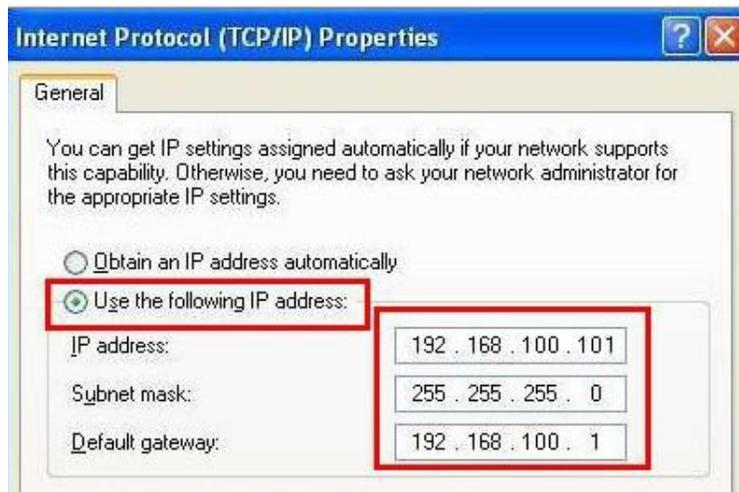

Figure 22 - Configuring the IP Address, Subnet mask, and Default gateway
2. Configure the **IP address**, **Subnet mask**, and **Default gateway** on your computer so it is on the same network segment as the camera (Figure 22).